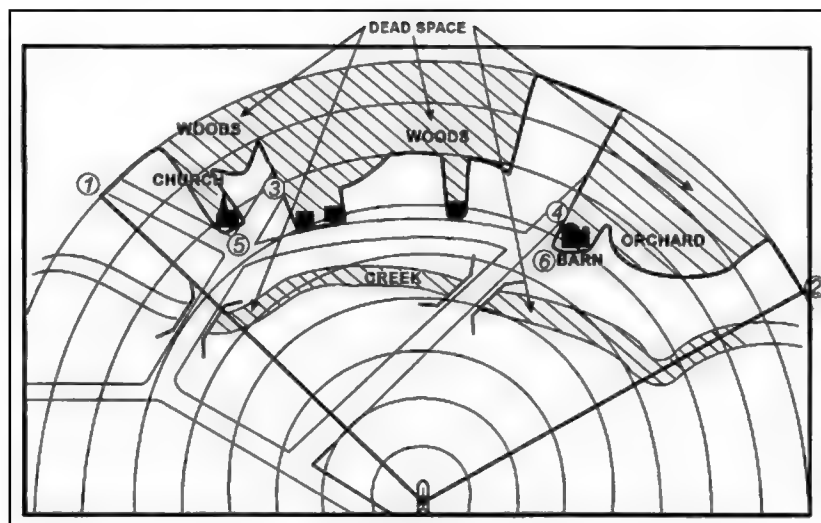

Figure B-9. Dead space.
g. **Dead Space.** Dead space is an area inside a gunner's sector of fire and inside the range of his weapons system where he can neither observe nor place direct fire. Any area in which a gunner does not have line of sight is considered dead space (Figure B-9). Buildings, trees, hills, or other terrain features can cause dead space. Shade these areas using diagonal lines to indicate significant dead space in the sector. These areas can then be identified as areas for indirect fire weapons.